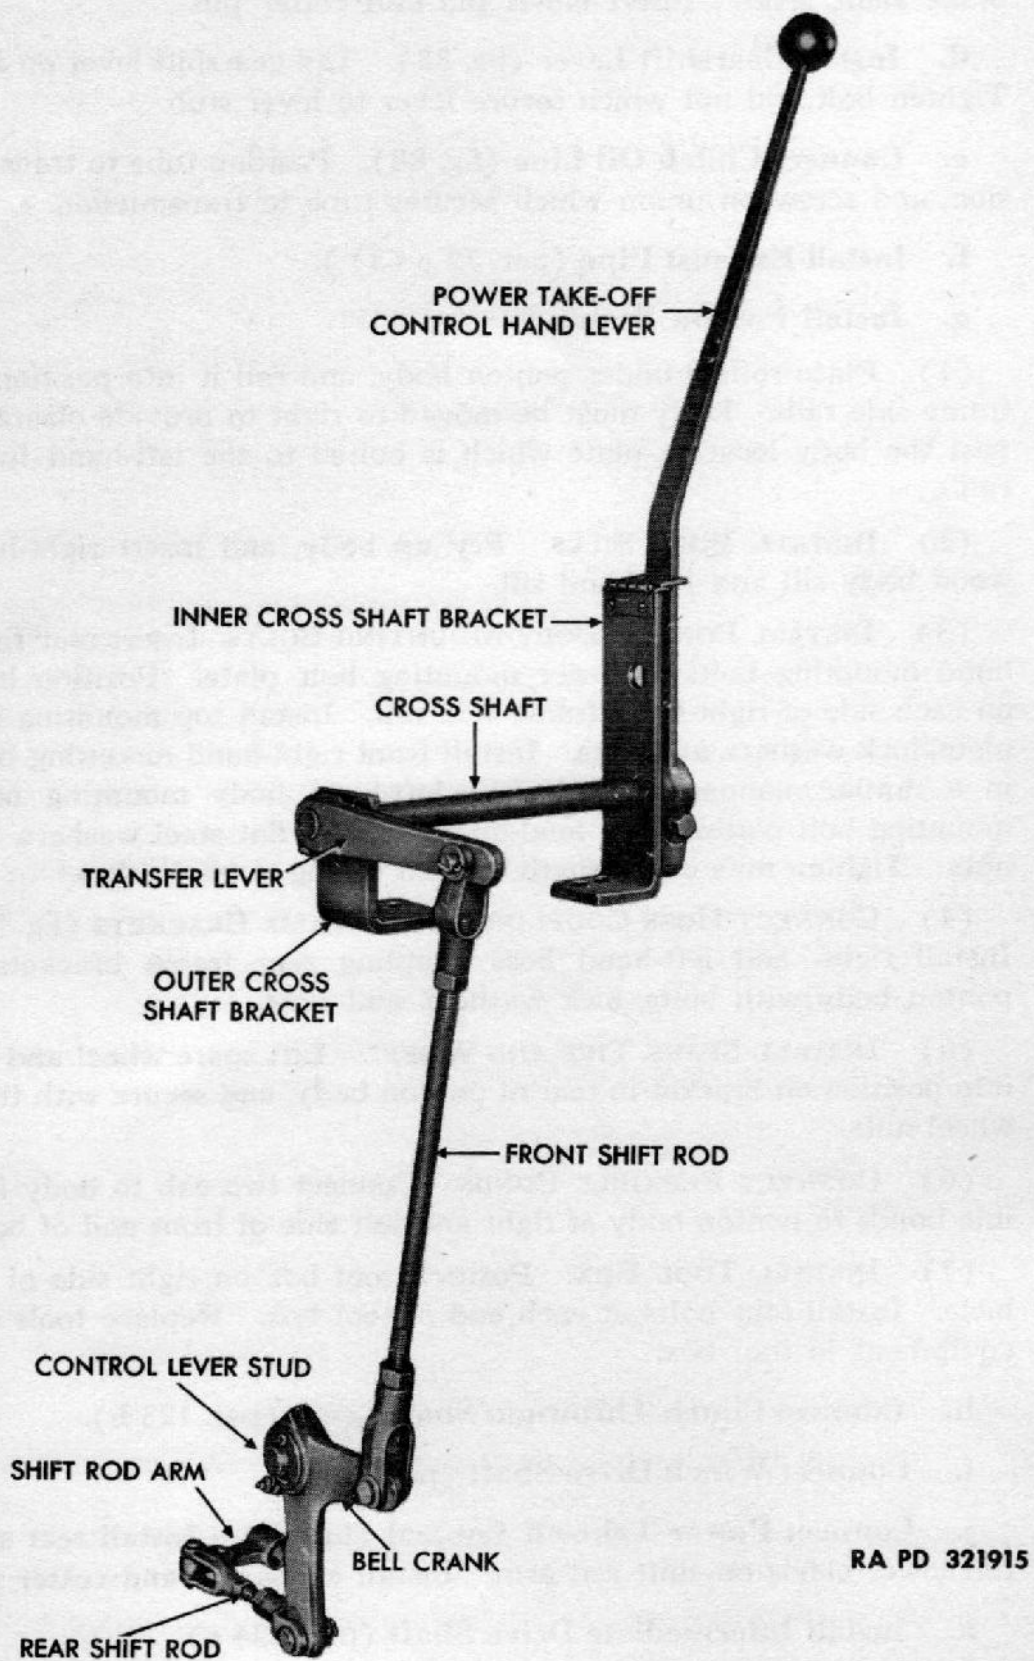

Figure 91 - Power Take-off Controls
a. **Removal** (fig. 91). Remove cotter pins and clevis pins from rear end of shift rod. Remove cotter pins and clevis pins from each end of front shift rod and lift off rod. Remove cotter pin from end of control lever stud and lift off bell crank.
b. **Installation** (fig. 91). Attach rear shift rod clevis to shift rod arm with clevis pin and cotter pin. Attach front shift rod arm to transfer lever at top, and bell crank at bottom, with clevis pins and cotter pins. Attach bell crank to control lever stud with flat washer and cotter pin.